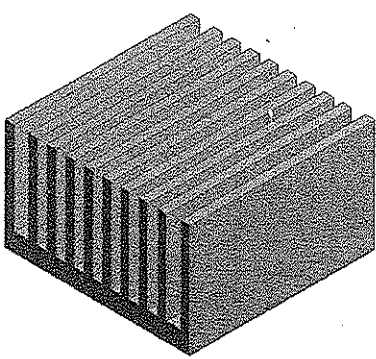
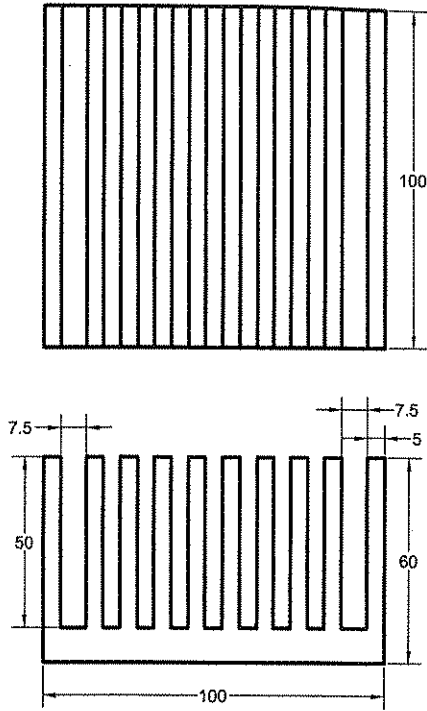

Figure 11-47 The Heat Sink model
Figure 11-48 The Top and Front views of the Heat Sink with dimensions
In this tutorial, you will create the 3D model of the Heat Sink shown in Figure 11-47. The dimensions and views of the model are given in Figure 11-48. After creating the model, you will run a Steady-State Thermal analysis on it. Finally, you will evaluate the Temperature distribution for the whole component and also the Total Heat Flux for the component on the basis of the boundary conditions given next.
8. Extrude the sketch to a distance of 100 mm to create the model, refer to Figure 11-47.